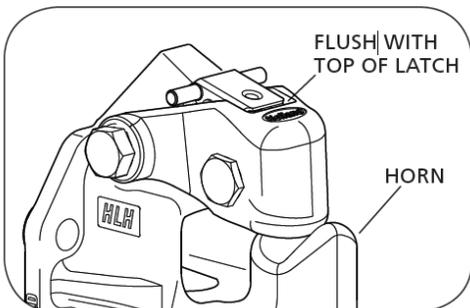

Figure 6.11
- ✓ Push the latch closed. When correctly locked, the lock handle will rotate and move up until it is flush with the top of the latch (Figure 6.11).